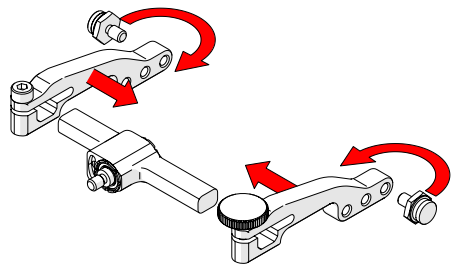

Fig. 84 - Attach arms and move buttons
4. Place the pivot buttons on the inside of the probe holder arms (Fig. 84) using a 3/8 in wrench (Fig. 24). Slide the arms onto the yoke and tighten the probe holder arm adjustment knob and the arm clamp screw.